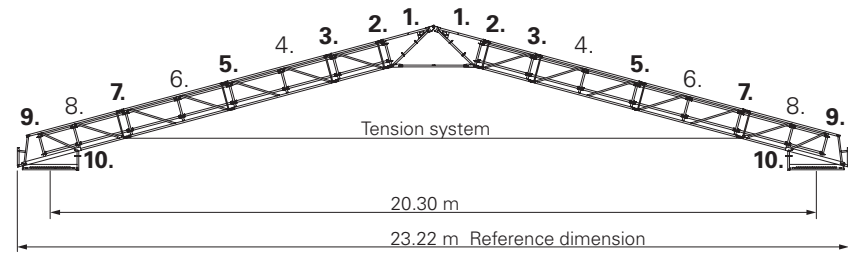
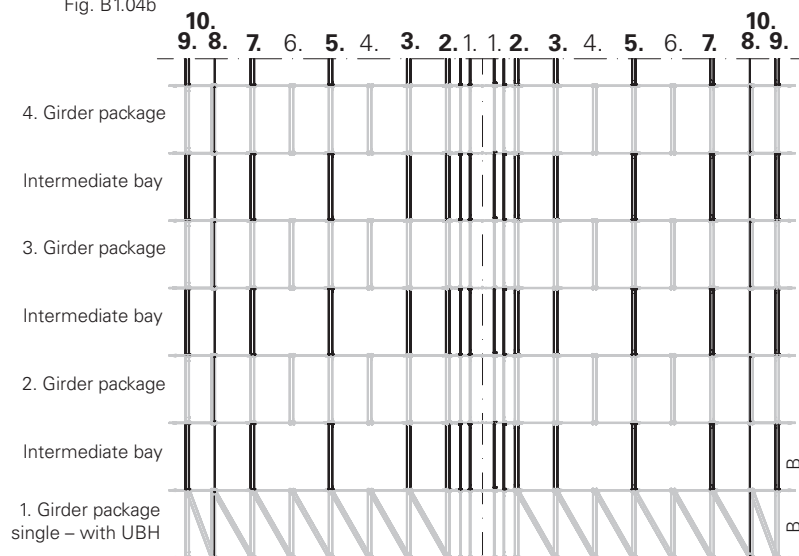

Fig. B1.04a
Fig. B1.05a
- with tension system (Fig. B1.04a),
Connect tension system to the eave element. (Fig. B1.04a)
- 1. girder package, single (Fig. B1.05a)
The numbers in Fig. B1.04a + B1.04b refer to the suspension points of the connecting components of the intermediate bays in Fig. B1.05a + B1.05b